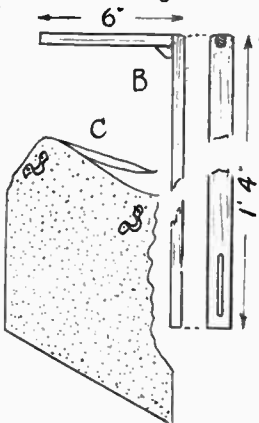

Fig. 3—Canopy supports and cover
The canopy arrangement is quite a simple affair. A canopy support should be made, this being shown at Fig. 3 (B). It consists of a post of $\frac{1}{2}$ in. or $\frac{3}{4}$ in. wood, 1 in. wide, and cut approximately to the length given, with a horizontal top piece of similar material, jointed in.